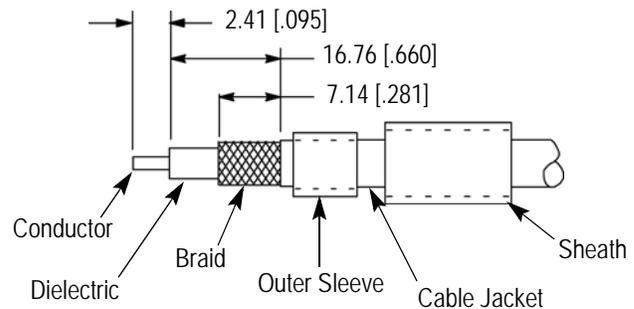

Figure 3
3.1. Preparing Coaxial Cable End (Figure 3)
3. Trim braid, dielectric, and conductor to length shown in Figure 3.